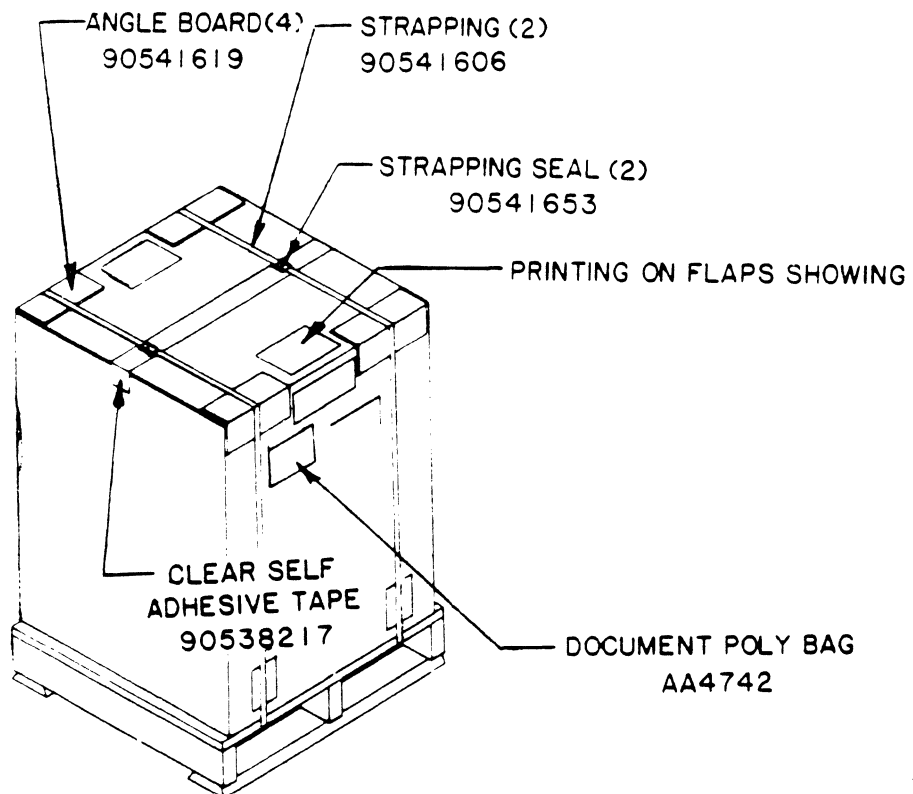

Figure 3-21. STU Shipping Preparations
- j. Tape carton closed and secure carton to pallet with banding straps and strapping seals (refer to figure 3-21).